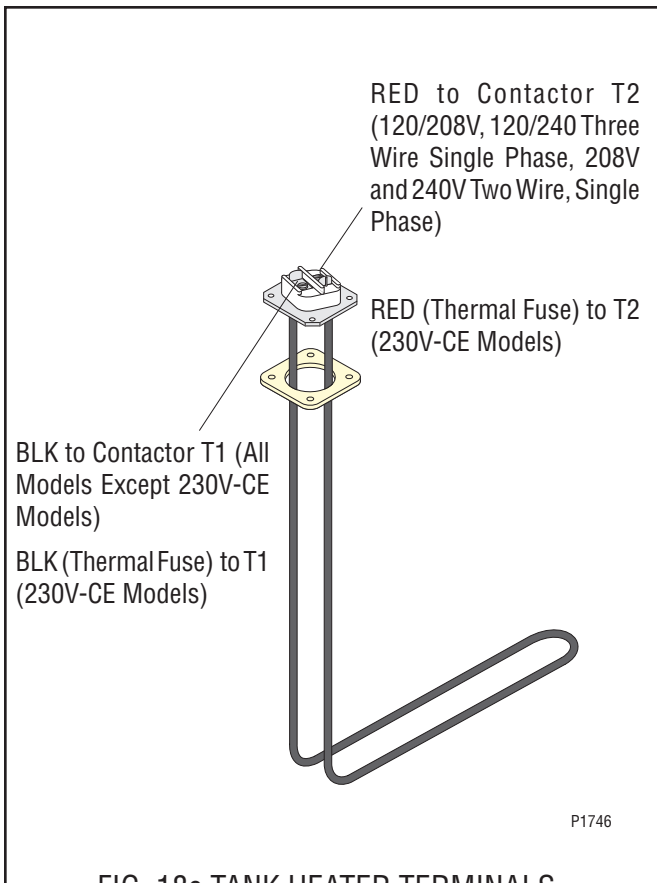

FIG. 18c TANK HEATER TERMINALS
5. Refer to Fig. 18c/19a and reconnect the wires.